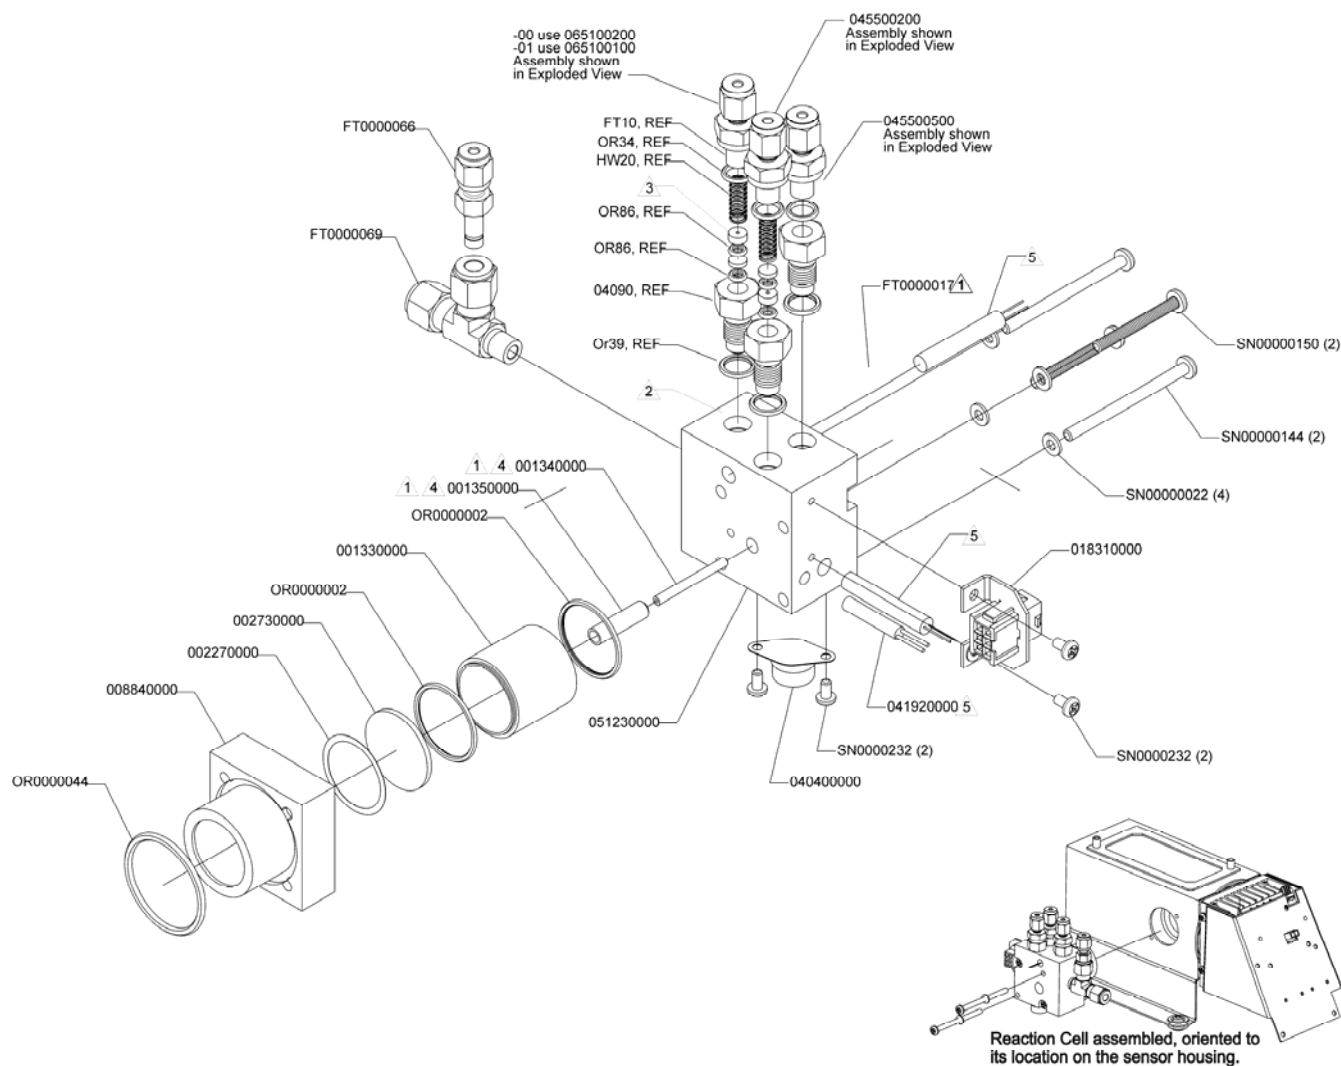
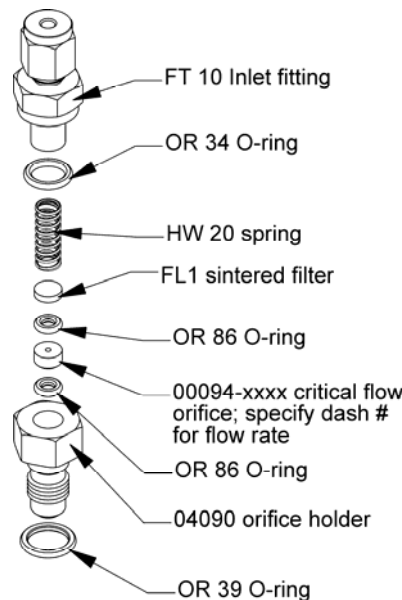

Figure 6-4: Reaction Cell Assembly
Figure 6-5: Critical Flow Orifice Assembly
1. Turn off the instrument power and vacuum pump. Refer to Figure 6-4 for the following procedure.
3. Remove four screws holding the reaction cell to the PMT housing and lift the cell and manifold out as shown in the inset of Figure 6-4.
There are several critical flow orifices installed in the 9110TH/M, Figure 6-4 shows one of the two most important orifice assemblies, located on the reaction cell. Refer to Section 8.3.3 for a detailed description on functionality and locations. Despite the fact that these flow restrictors are protected by sintered stainless steel filters, they can, on occasion, clog up, particularly if the instrument is operated without sample filter or in an environment with very fine, sub-micron particle-size dust.
- Turn off power to the instrument and vacuum pump. Remove the analyzer cover and locate the reaction cell (Figure 3-7 for location in chassis, and Figure 6-4 for exploded view of assembly).
- For orifices on the reaction cell (Figure 6-4): Unscrew the orifice holder with a 9/16" wrench. This part holds all components of the critical flow assembly as shown in Figure 6-5. Appendix B contains a list of spare part numbers.
- For orifices in the vacuum manifold: the assembly is similar to the one shown in Figure 6-5, but without the orifice holder, part number 04090, and bottom O-ring OR34 and with an NPT fitting in place of the FT 10 fitting.
7. Re-assemble the flow control assembly with new the parts (see Appendix B for part number or replacement kit) as shown in Figure 6-5 and re-connect them to the reaction cell manifold or the vacuum manifold.